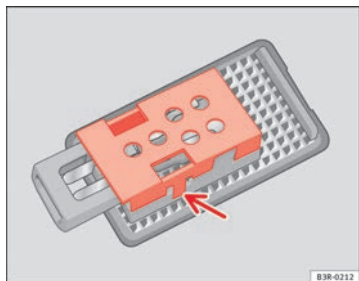

Fig. 221 Luggage compartment light
- Remove the protective cover and remove the bulb from the housing ⇒ fig. 221.